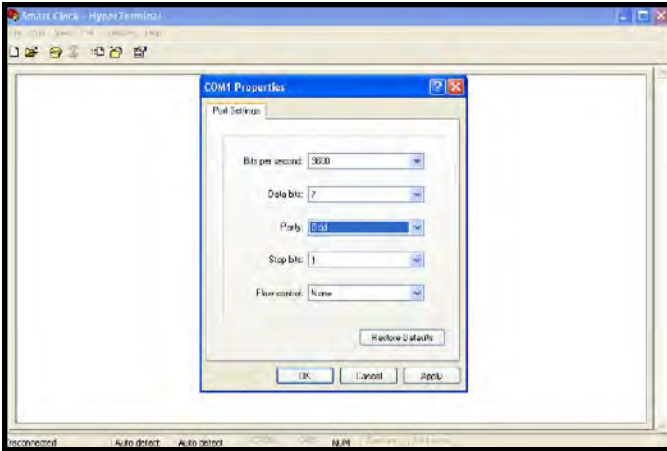

Figure 102. "Port Settings" prompt
- IX. In the "Port Settings" window, be sure to enter the same communication settings that were entered in the Channel 1 Serial options of the Wireless Network Adapter's web browser interface (see Figure 102). Click the "OK" button when complete.